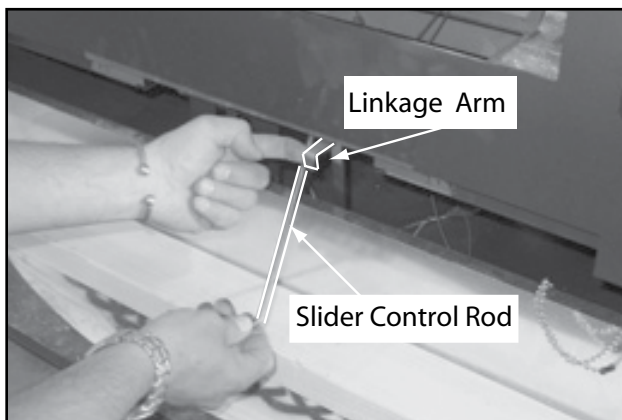

Figure 4.16
7. Move slider control rod and linkage arm to the right and out of the way. Pull rod down and out towards you. Lay the control arm down. Figures 4.16 and 4.17.